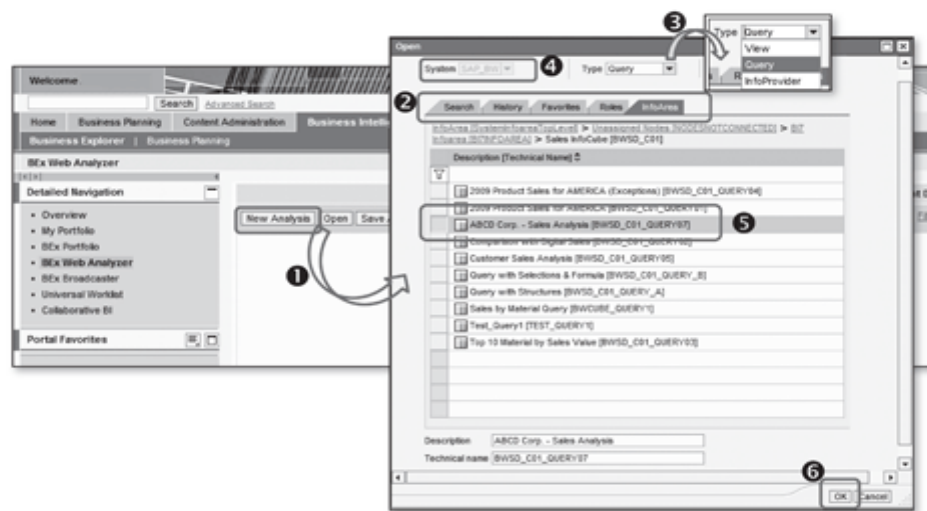

Figure 10.41 Create New Analysis
The default layout of BEx web analyzer is shown in Figure 10.41. Using the buttons available on the top toolbar, you can create a new analysis or open an existing one (Figure 10.41). To open a new analysis, click on the New Analysis button (❶), and the Open window appears. Here you can select the data provider for your analysis from the available tab pages (❷). Ad-hoc analysis can be performed on different types of data providers; you can open an existing query or InfoProvider for one of the views based on your specific need. Select the type of object from the dropdown (❸).
Using BEx web analyzer, you can also perform analysis on the data from external systems, which can be connected using XMLA or ODBO interfaces (❹ of Figure 10.41). For this, the external system must first be defined in the portal. Normally, portal administrators perform this task for you.